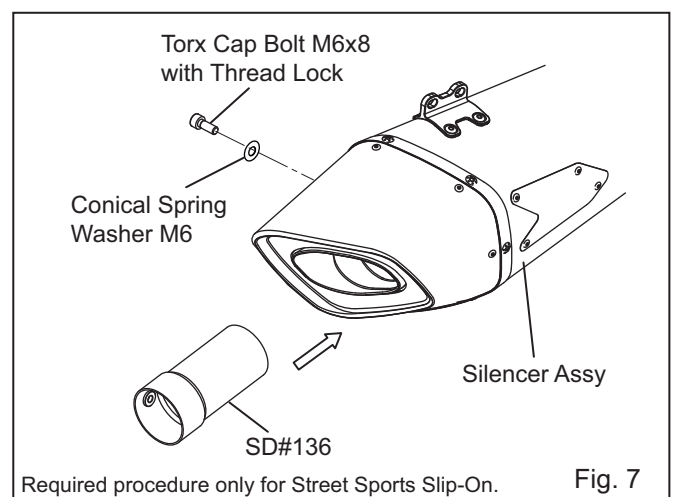

Fig. 7
- 8) In case the Slip-on is Street Sports type, install SD#136 with Conical Spring Washer M6 and Torx Cap Bolt M6x8 Thread Lock which are supplied in the Slip-on if necessary. (See Fig. 7)